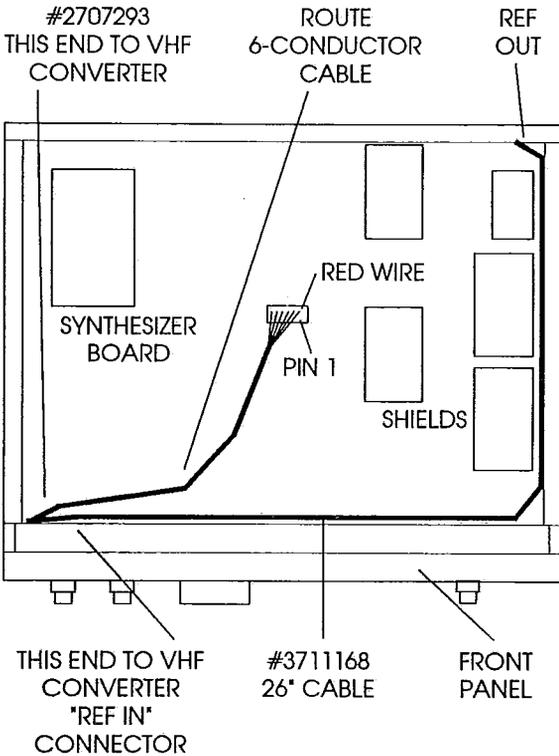

FIGURE 4 R8 BOTTOM VIEW
6) With the converter assembly now secured in the chassis with 6-conductor cable attached, position the R8 so it rests on its left-hand side (facing front of receiver). Locate the unconnected end of the 6-conductor cable and connect it to the synthesizer board connector in the orientation shown in Figure 4. Be careful to align the **RED** conductor on **PIN 1** of the synthesizer board assembly connector header. Position the cable assembly so that it routes as shown. Reduce any excess slack cable length near the VHF converter to provide the proper routing on its approach to the synthesizer board connector header.
7) Connect the supplied 26' 'REF' coaxial cable #3711168 to the 'REF OUT' connector located near the right rear corner of the synthesizer board. Position the cable as shown in Figure 4, routing the free end of the coax cable along the front panel (near volume control) and up to the VHF Converter assembly end nearest the front panel.